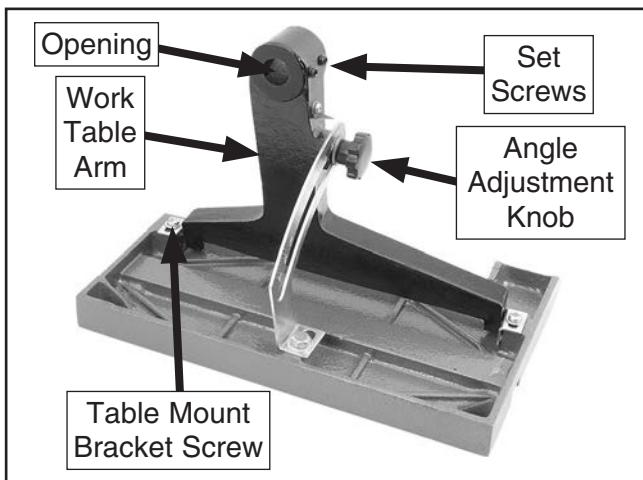

Figure 31. Location of set screws on work table arm.
- 13.** Loosen the two set screws on the work table arm so their ends are flush with the inside of the opening, as shown in **Figure 31**.
- 14.** Loosen the angle adjustment knob on the work table (see **Figure 31**), tilt the table to the 0° mark, then tighten the knob.
—If the gap between the work table and the sanding disc is not the same on both sides, loosen one of the table mount bracket screws (see **Figure 31**), adjust the table as needed to even the gap, then tighten the screw.